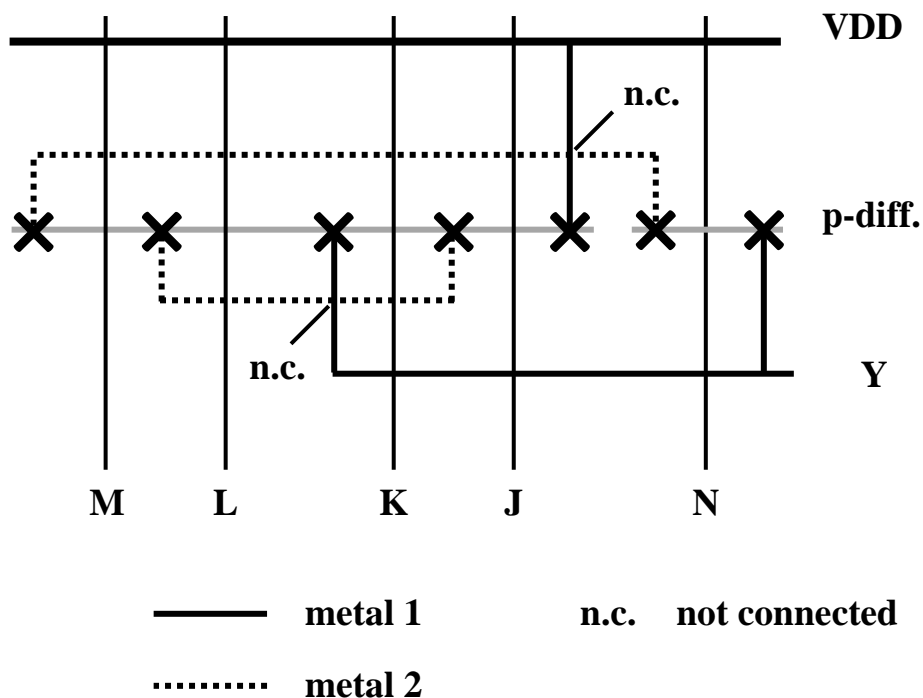

Figure 2.2: Stick diagram of PUN of a CMOS logic circuit
- (b) Figure 2.2 shows a stick diagram of the Pull-Up Network (PUN) of a CMOS logic circuit using a random polysilicon ordering.